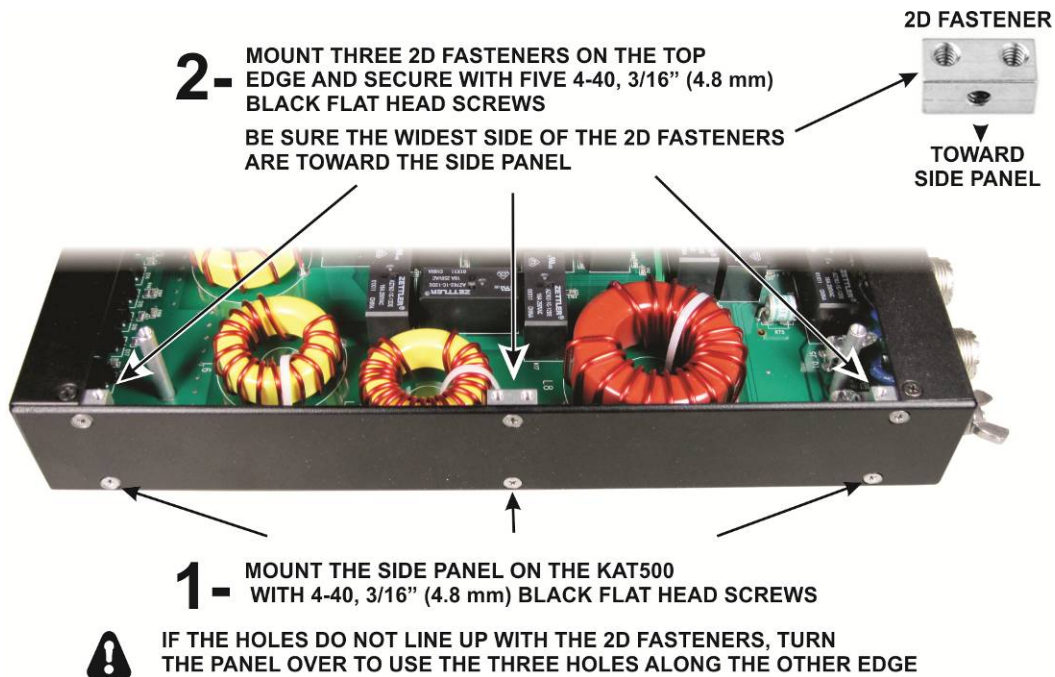

Figure 37. Installing the Side Panels.
- Place a side panel on the KAT500, lining up the three holes along the bottom with the 2D fasteners between the pc board and the bottom cover. Be sure all three holes line up. If they do not line up, turn the side panel over to line up the other three holes. Attach the side panel with three screws as shown in Figure 37 at (1).
- Mount three 2D fasteners along the top edge of the side pane as shown in Figure 37 at (2). Be sure the widest side is toward the side panel as shown. You may need to loosen the screws along the bottom edge to allow the panel to move to properly align the holes.